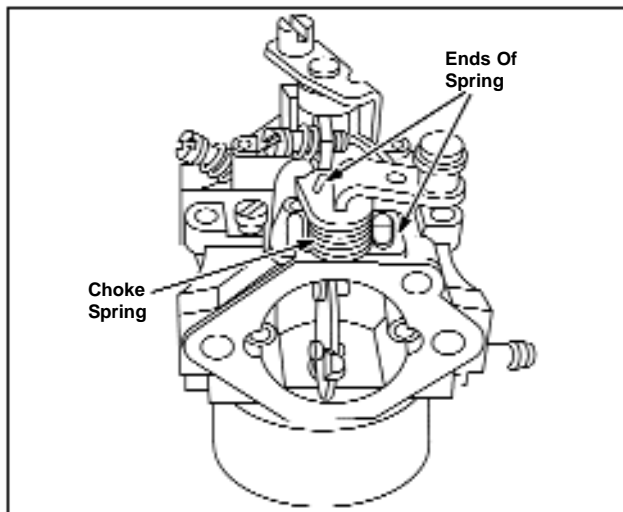

**Figure 24 - Installing Throttle Valve,**
4. Lay throttle valve on shaft with stamped numbers to the left and install two (2) screws with lock washers, Figure 24.